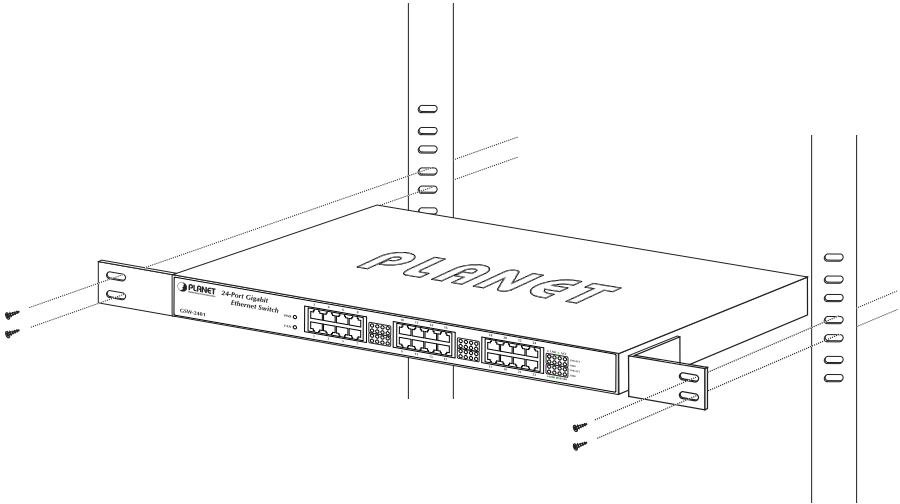

Figure 2-6 Mounting the Gigabit Ethernet Switch in a Rack
- Step 5: After the brackets are attached to the Gigabit Ethernet Switch, use suitable screws to securely attach the brackets to the rack, as shown in Figure 2-6.